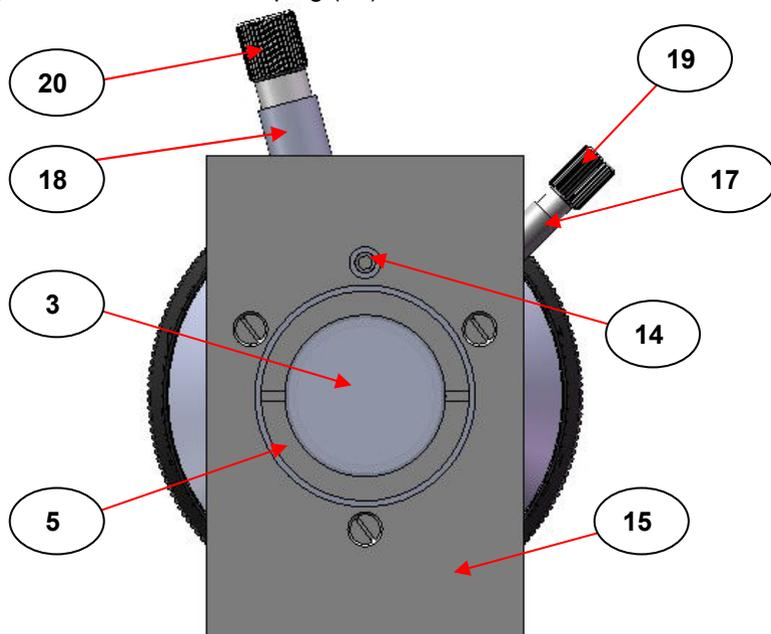

Fig 5. Back View (Through 3" x 2" Mount Plate) of the Variable Pathlength Cell GS07500 Series.
Theoretically, the windows (3) and (4) can be brought together such that their surfaces are in contact with each other, but they could be damaged by this action. To minimise the possibility of damage to the windows, the variable pathlength cell is fitted with an adjustable stop grub screw (14). This grub screw is accessible through the 3" x 2" mount plate (15) at the rear of the cell body (2). (See Fig 5., page 17.) When supplied from Specac, this grub screw (14) has been set to stop clockwise rotational movement of the outer body sleeve cap assembly (1) with a setting of a pathlength at approximately 0.080mm (80 microns) between the windows (3) and (4) inner surfaces. Therefore, when rotating the outer body sleeve cap assembly (1) clockwise, it will come to a stop at this minimum pathlength setting, beyond which it should not be forced. For shorter pathlengths, down to a practical measurable minimum of circa 0.025mm (25 microns), the stop grub screw (14) will require readjustment and should be unscrewed by the 1.5mm Allen key provided.